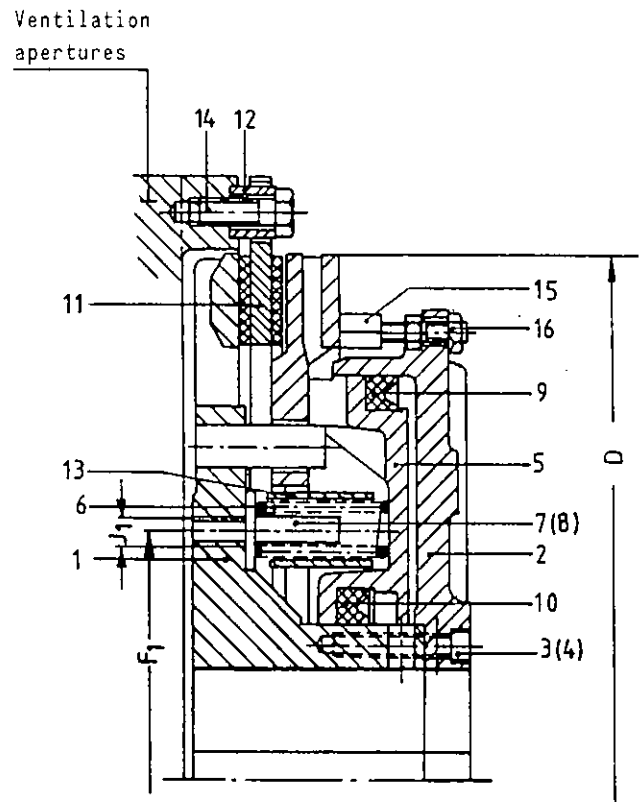

Fig. 1: Twelve point plate suspension
2.1 Twelve point plate suspension (Fig. 1)